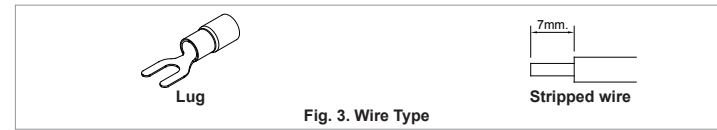

Fig. 3. Wire Type
- Use flexible cable (stranded or solid), AWG no. 20-16. Recommended torque at the connector shall be 5 Kgf.cm. The insulation stripping length should not exceed 0.275" or 7 mm (Refer to Fig. 3).